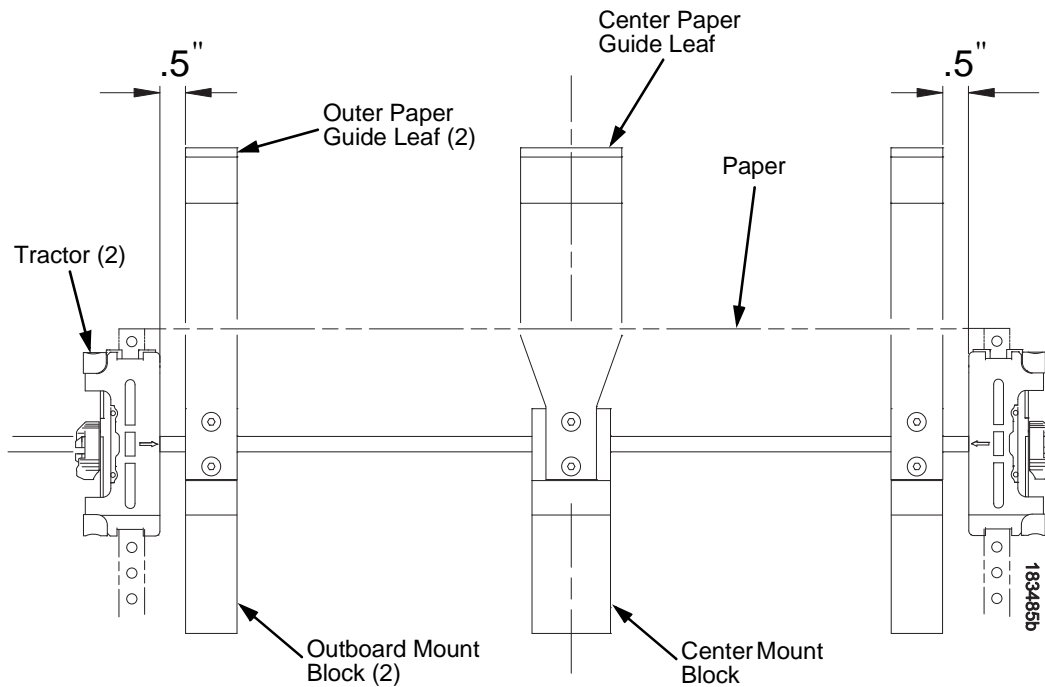

Figure 29. Adjusting Paper Guide Leaves
4. Slide the left outboard mount block so that the left outer paper guide leaf is .5 inches from the left tractor. (See Figure 29).